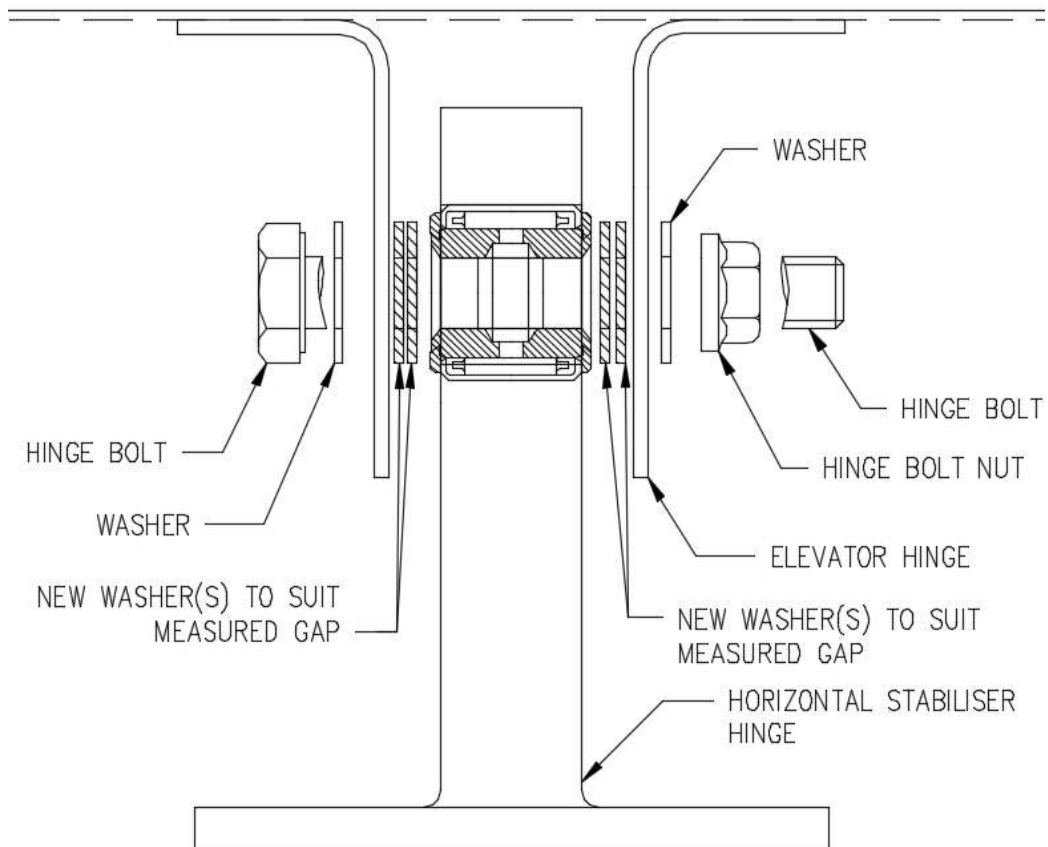

Figure 6 – Inboard Hinge Installation
- 8.5. Install serviceable hinge bolt, nut and washers through Inboard Hinge using the number of washers determined in Step 8.4 as shown in Figure 6.